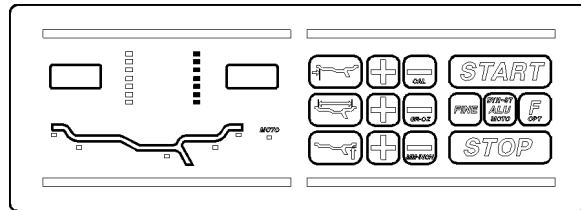

Fig.59
**J.** Rotate the wheel until the angular indicators are all lit (Fig.59).
**K.** Rotate the wheel until the outer angular indicators are all lit (Fig.59)